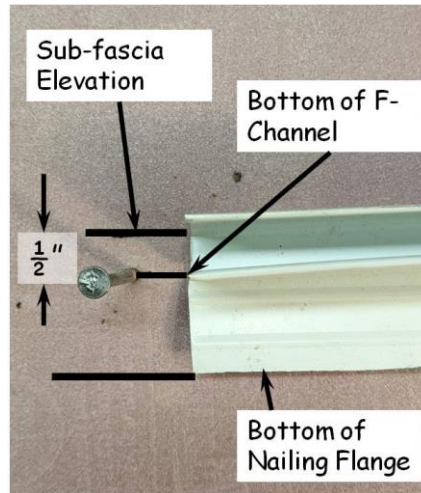

Figure 11-2. F-Channel Location.
- a. Carefully measure the height of the F-channel. Measure down from the top mark the overall height of the F-channel, and make a mark. This will be the **bottom of the F-channel nailing flange** (see Figure 11-2).
- b. Each course of siding is 8" tall. The typical house requires 12³/₄ courses. The ³/₄ course at the top is planned so that there is approximately 2¹/₂" above the center butt to insert into the top undersill trim. This results in the top course being ~6¹/₂" tall. The overall height of the siding is then 102¹/₂" (12x8=96 + 6¹/₂=102¹/₂". The bottom of the siding is thus nominally 102¹/₂" below the bottom of the F-channel, or the nail in Figure 11-2 above.